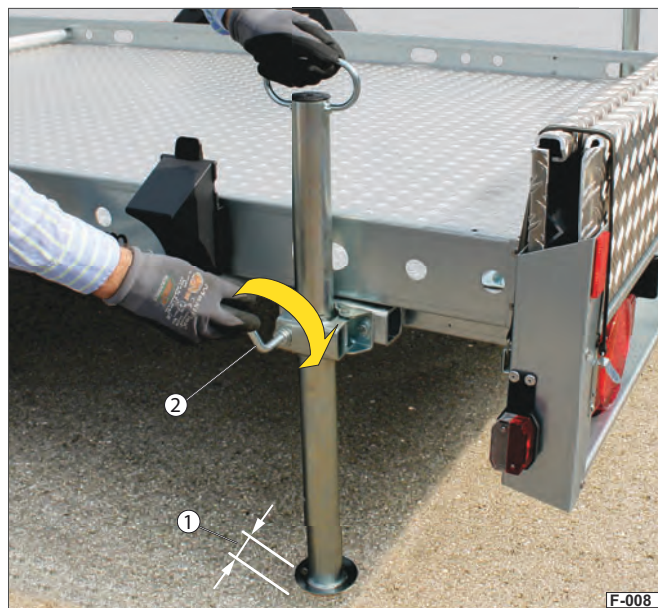

Fig. 8 Fastening prop stand
- ▶ Turn the T-handle (Fig. 8 /2) until it is tight.